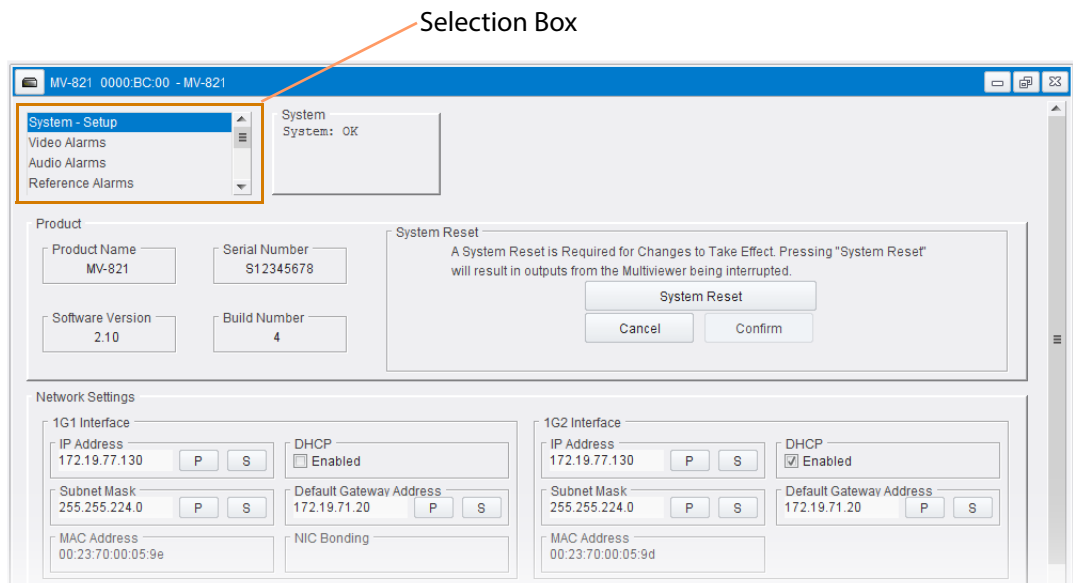

Fig. 9-6: MV-8 Series Multiviewer RollCall Control Screens
- 6 The MV-8 Series Multiviewer control screens are automatically downloaded and then displayed in the pane on the right. See Figure 9-6.